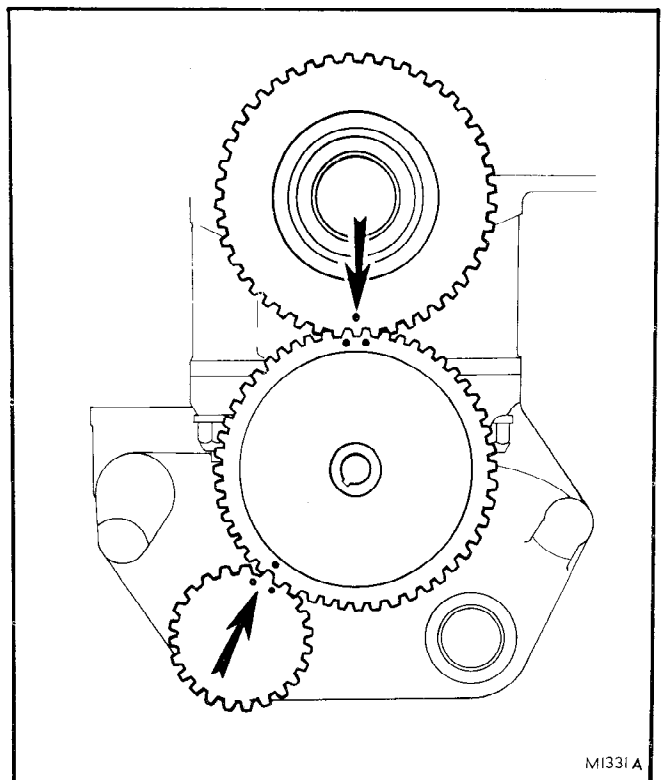

Fig. 3
- i. Ensure that the oil pump gear back-lash is as stated in Data and is aligned with the crankshaft gear as shown in Fig. 3.